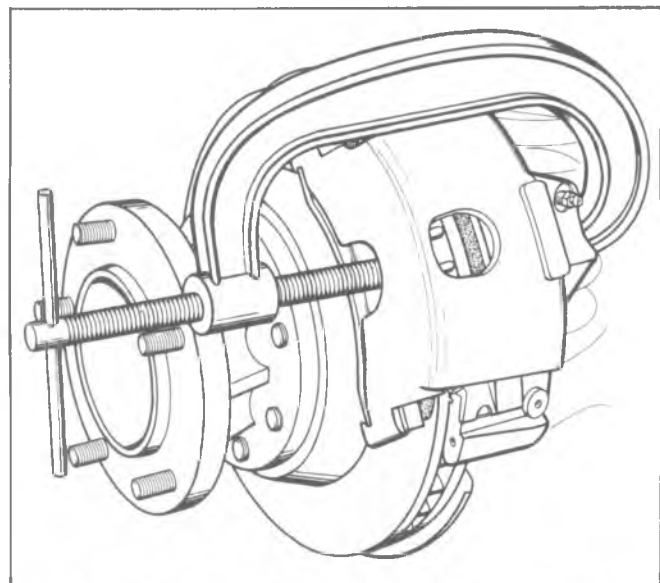

Fig. 5-33--Pushing Piston into Bore Using a "C" Clamp
3. Push the piston back into its bore. This can be accomplished by using a "C" clamp as shown in Figure 5-33.